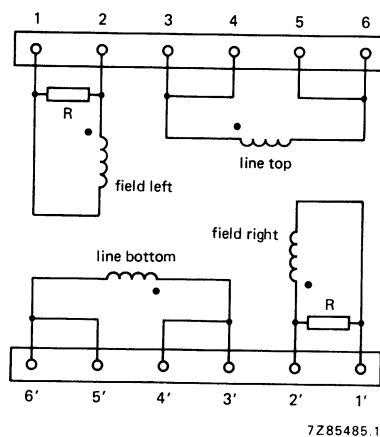

Fig. 2 Diagram of line and field coils; $R = 270 \Omega$.
If a further improvement of raster geometry is required use can be made of correction magnets*, which must be fitted to mounting posts (1). The unit has solder pins for connection. The pin numbering in Fig.1 corresponds to that in Fig.2.